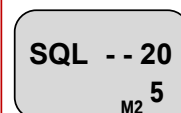

Figure 8
1. Push the " **SQL** " softkey, then rotate the tuning dial to desired squelch level (00 - 24). (See Figure 8)